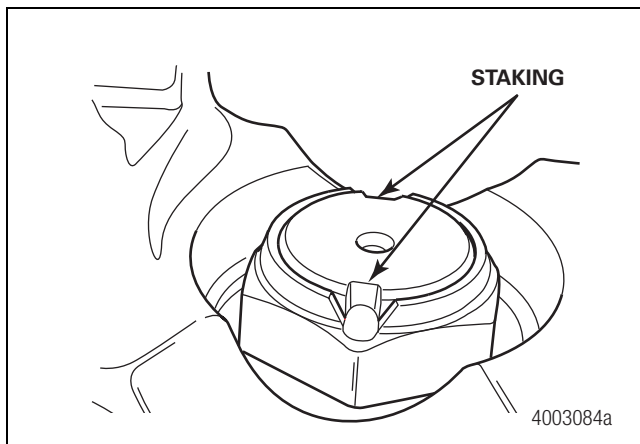

Figure 4.3
2. Use a die grinder to carefully remove the flange stakes without damaging the pinion's threads or stem. Do not use a chisel and hammer. Figure 4.3.